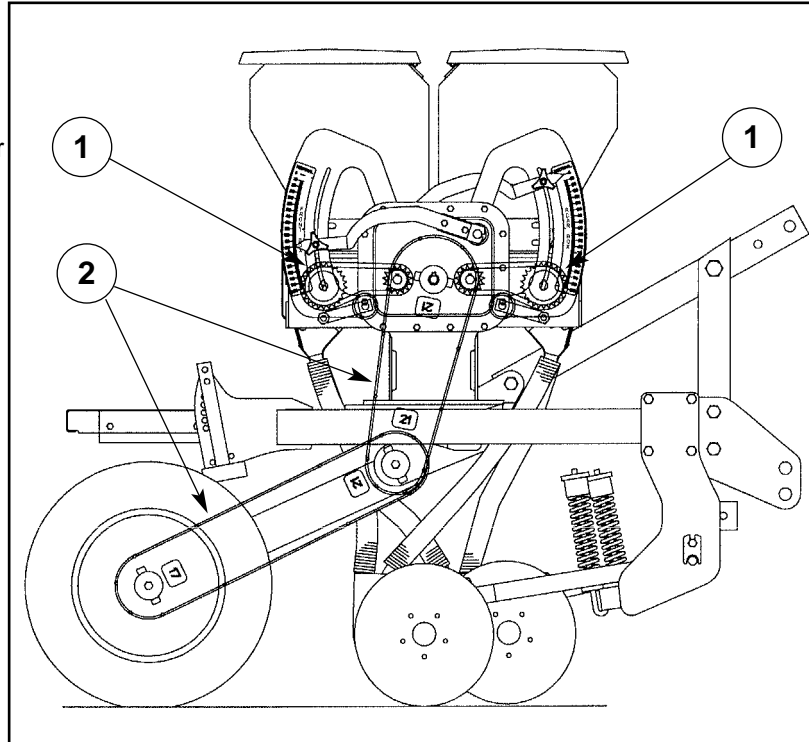
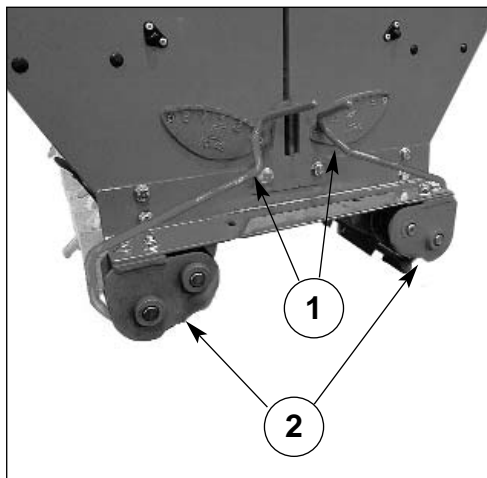

Fig 19
Fig 21
Pedestal and agitator drive chains (1) Fig 19 & (2) Fig 21 should first be checked after 20 hours of operation and thereafter every 200 hours of operation as follows:-
Drive cassettes (2) Fig 19 are fully enclosed and therefore dirt build up around the chain is less likely. A pre-season internal inspection of the drive cassettes is recommended to ensure the chain and sprockets are in good working order. The drive cassette pivots should be greased weekly to keep the plastic bushes and housings lubricated. Regular greasing will also flush out contaminants from the running surfaces.
Put the bottom flap setting levers (1) (located on the LH end of the seed boxes) in position "1" for the front box and position "1" for the rear box. Refer Fig 21.